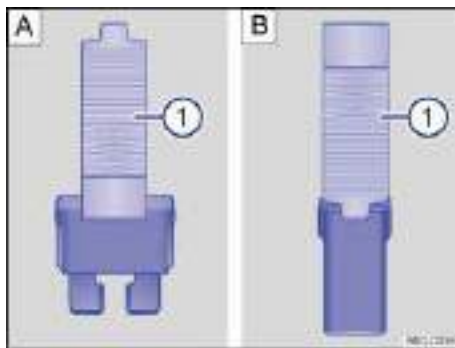

Fig. 199 Removing or installing a blade fuse with the plastic tweezers: A: Blade fuse. B: JCASE® fuse.
- Depending on the type of fuse, slide the tweezers ⇒ fig. 199 A \(1\) or ⇒ fig. 199 B \(1\) onto the fuse from the side.